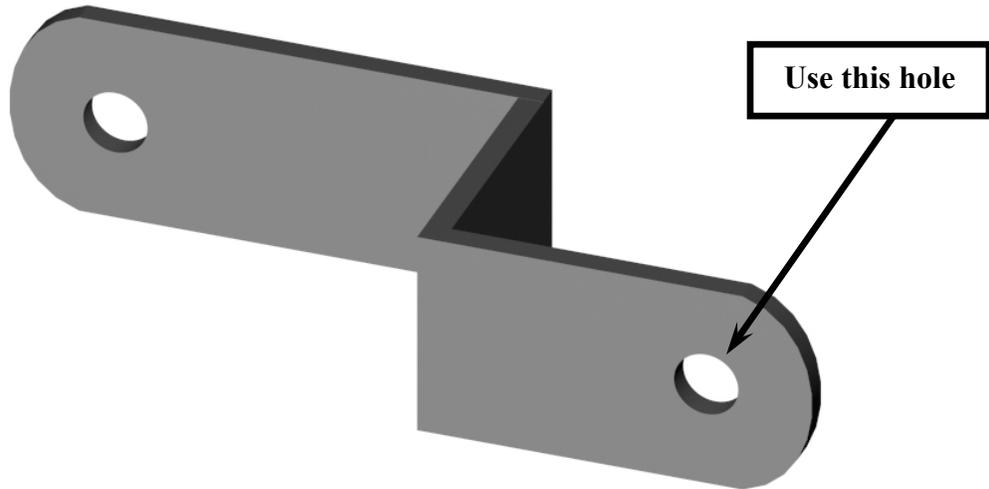
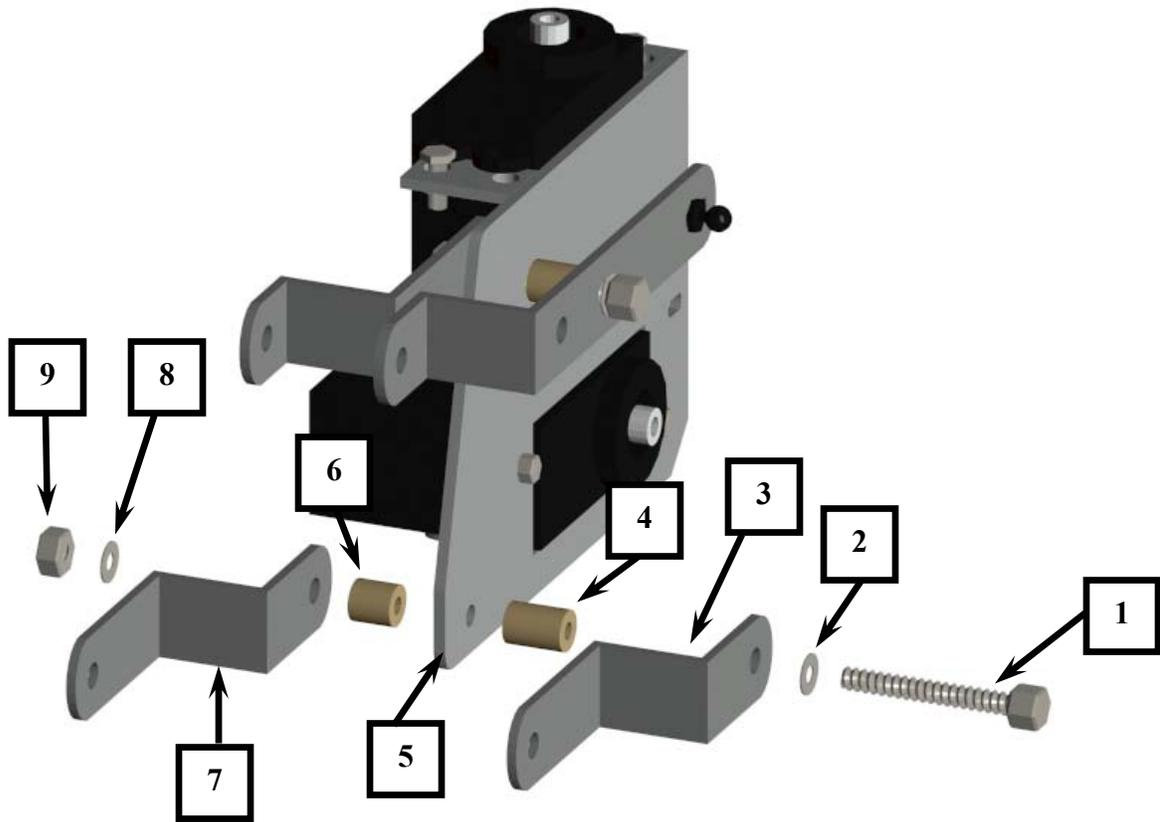

Figure 14: Lower Horizontal Leg Brace
Figure 15: Lower Horizontal Leg Assembly
9. Attach (2) lower horizontal leg braces with the same hardware and in the same order as the previous steps to the lower hole on the servo mount as shown in Figure 14. Use the close-up diagram on the next page as a reference. Ensure that the shorter end of the lower horizontal leg brace is installed to the servo mount as shown in Figure 14 and Figure 15.
9. Use the close-up diagram in Figure 15 for the complete assembly sequence.